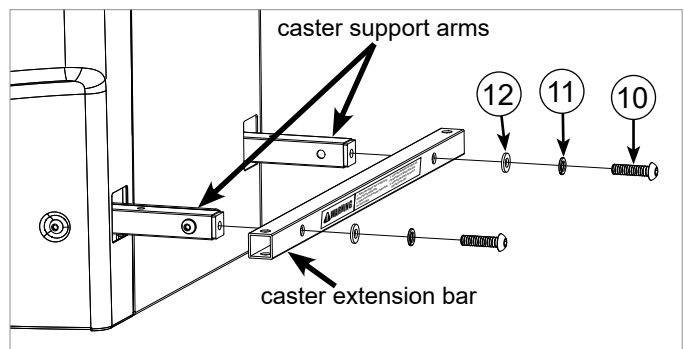

Fig. 38
20. With the saw in the upright position, mount the caster extension bar to the two caster support arms that extend from the right side of the cabinet. Make sure that the warning label is facing outward. Use two M10 x 40 button head socket bolts, two M10.5 x 17 lock washers, and two M10.5 x 20 washers to mount the caster extension bar to the caster support arms (see Fig. 38). Fully tighten the bolts with a 6 mm hex key.